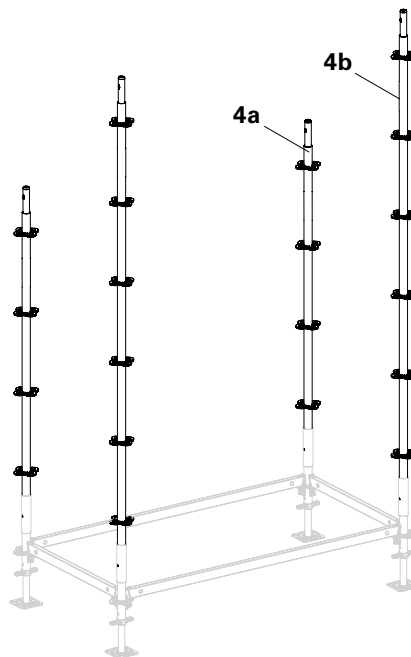

Fig. A2.05
- Outer side with 2 Standards UVR 300 (4b). (Fig. A2.05)